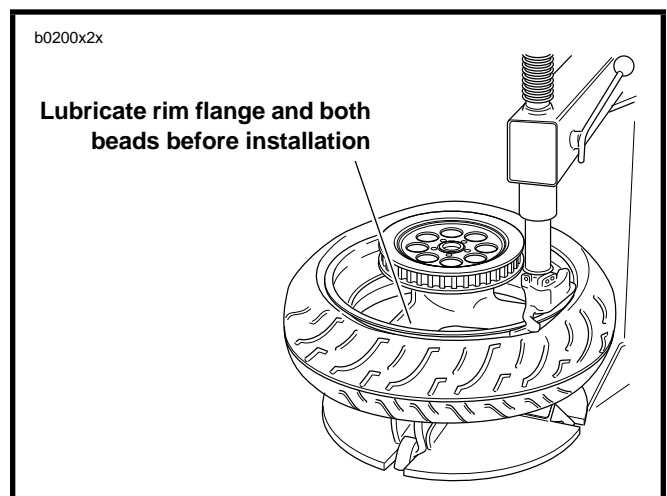

Figure 2-15. Starting Bead on Rim
4. See Figure 2-15. Starting at the valve stem, start first bead into the rim well using a bead breaker machine. If no machine is available, work bead on as far as possible by hand. Use a tire tool to pry the remaining bead over rim flange.